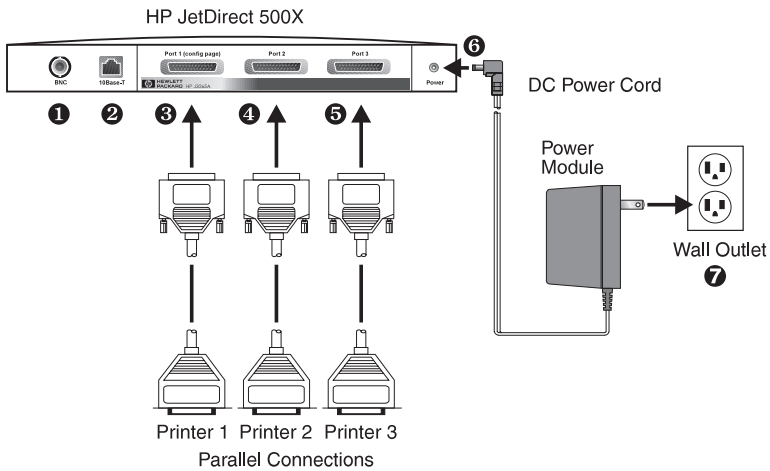

Figure 2.2 Hardware connections using a U.S. power module for the HP JetDirect J3265A Print Server
In the following steps, the circled numbers correspond to those in Figure 2.2. The HP JetDirect 300X, 170X, and EX Plus have one printer port ③. The HP JetDirect 500X Token Ring and 300X have no BNC port ①. On the HP JetDirect 500X and 300X, the RJ-45 connector ② is used for either 10 or 100 Mbps operation. The JetDirect 170X has no BNC port ①.
- Connect the print server to the network ① or ②.
- Connect the print server to the printer(s) ③, ④, and ⑤.